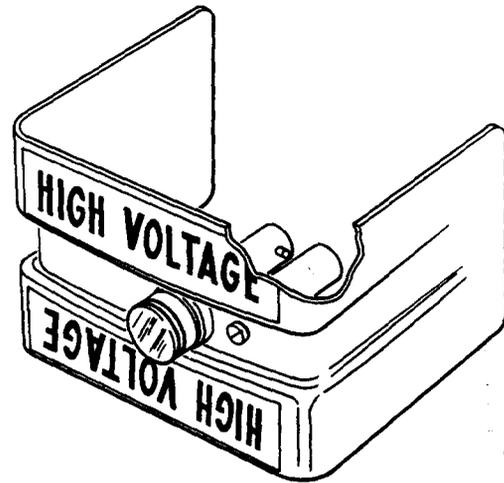

Figure 49—C Warning Marker
6.05 The C warning marker (Figure 49) is placed over the 1A protector unit on the 300-type connector. It consists of a formed red plastic saddle having a fixed spring depressor and a locking depressor. The marking consists of red characters on a white field.